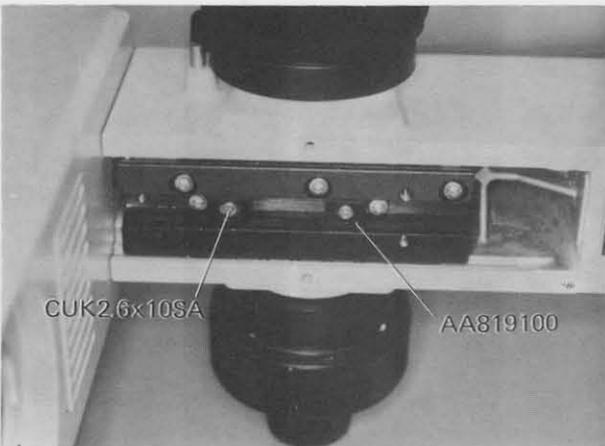

Fig. 4-39
- 4-2-7 Reassemble two Fixing pieces AA819800 by using Screw CUK2.6x10SA. (See Fig. 4-39)